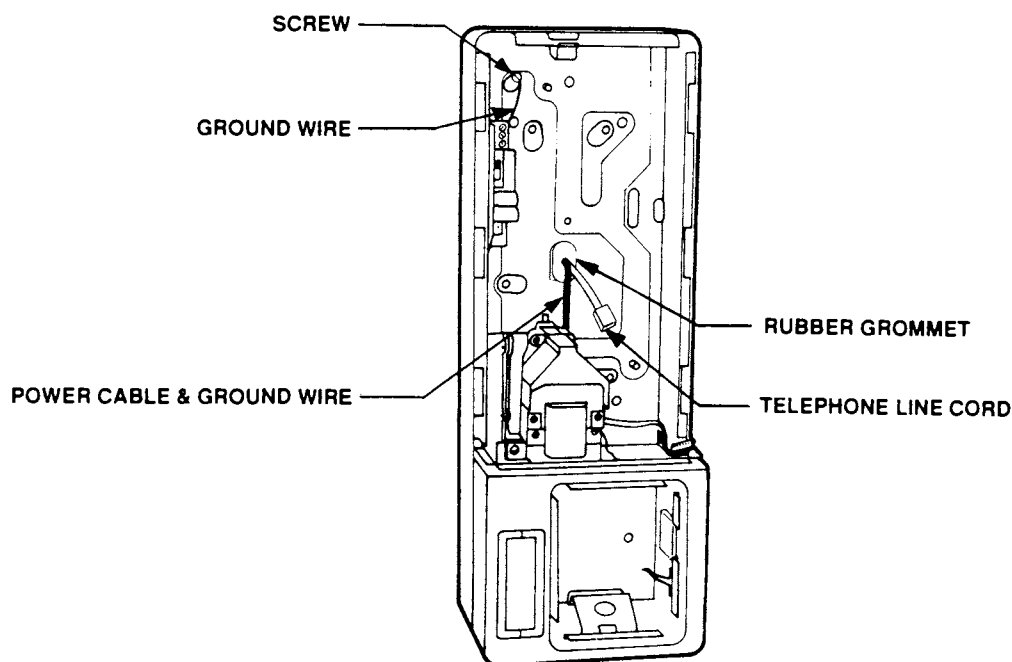

Figure 10 Rubber Grommet Use and Ground Location
- If the rubber grommet is not already cut, use a pair of scissors or a utility knife to cut the hole in the grommet part of the way up and part of the way down. The grommet is there to keep out moisture and dust, so don't cut more than necessary. Bring electrical power cable, ground wire, and telephone line cord through center hole of grommet. Refer to Figure 10.
- Place rubber grommet back into base housing (thus sealing the opening in the back of the base housing). See Figure 10.
- Connect the ground wire brought inside the phone to the phone's housing. Refer to Figure 10.
- Cut the rubber grommet and bring electrical power cable, ground wire, and telephone line cord through the center hole of grommet. Refer to Figure 10.
- Place the rubber grommet back into the base housing (thus sealing the opening in the back of the base housing). See Figure 10.